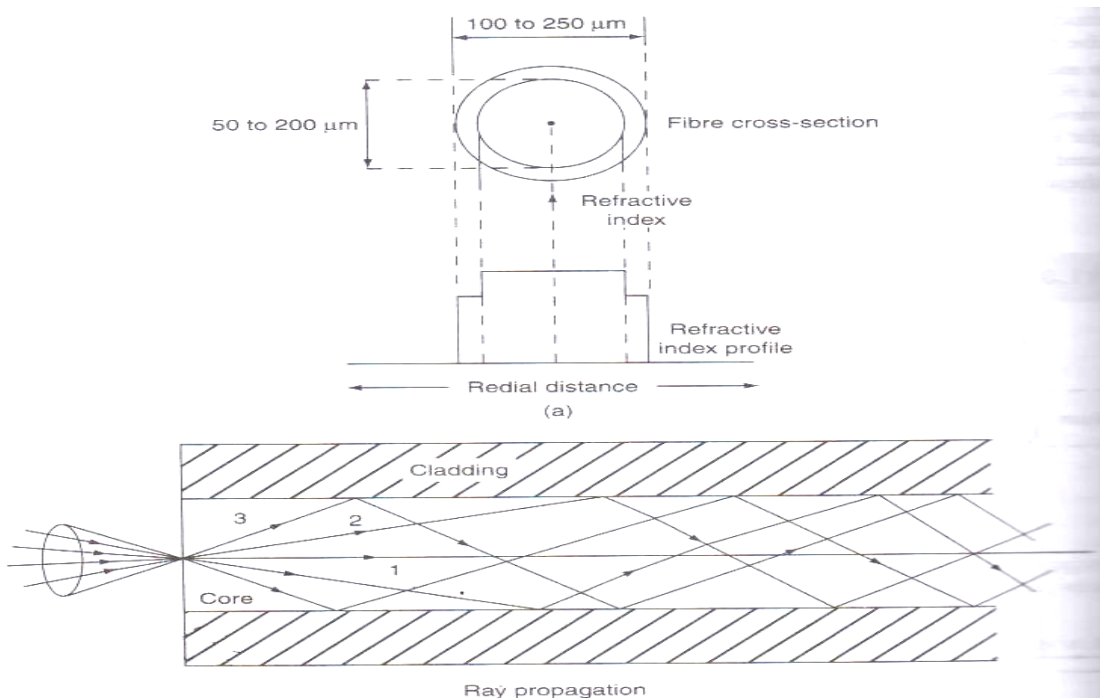

Fig.8.13(ii).Multimode step index fibre(a)Cross sectional view and refractive index profile(b)Ray propagation
fiber axis (fig .8.13) describes the acceptance cone of the fiber. Light launched at the fiber end within this acceptance cone alone will be accepted and propagated to the other end of the fiber by total internal reflection. Larger acceptance angles make launching easier. Light gathering capacity of the fiber is expressed in terms of maximum acceptance angle and is termed as “Numerical Aperture”.
Transmission of signal in step index fiber: Generally the signal is transmitted through the fiber in digital form i.e. in the form of 1's and 0's. The propagation of pulses through the multimode fiber is shown in fig8.13 (i)(b). The pulse which travels along path 1(straight) will reach first at the other end of fiber. Next the pulse that travels along with path 2(zig-zag) reaches the other end. Hence, the pulsed signal received at the other end is broadened. This is known as intermodal dispersion. This imposes limitation on the separation between
2) **Graded index fiber:** In this fiber, the refractive index decreases continuously from center radially to the surface of the core. The refractive index is maximum at the center and minimum at the surface of core. This fiber can be single mode or multimode fiber. The cross sectional view, refractive index profile and ray propagation of multimode graded index fiber are shown in fig.8.13(ii)(a). The diameter of core varies from 50 to 200 μm and outer diameter of cladding varies from 100 to 250 μm .
The refractive index profile is circularly symmetric. As refractive index changes continuously radially in core, light rays suffer continuous refraction in core. The propagation of light ray is not due to total internal reflection but by refraction as shown in fig.8.13 (ii). (b). in graded index fiber, light rays travel at different speed in different paths of the fiber. Near the surface of the core, the refractive index is lower, so rays near the outer surface travel faster than the rays travel at the center. Because of this, all the rays arrive at the receiving end of the fiber approximately at the same time. This fiber is costly. .
As shown in fig.8.13. (ii)(b) and another ray path 2. Along with the axis of fiber, the refractive index of core is maximum, so the speed of ray along path 1 is less. Path 2 is sinusoidal and it is